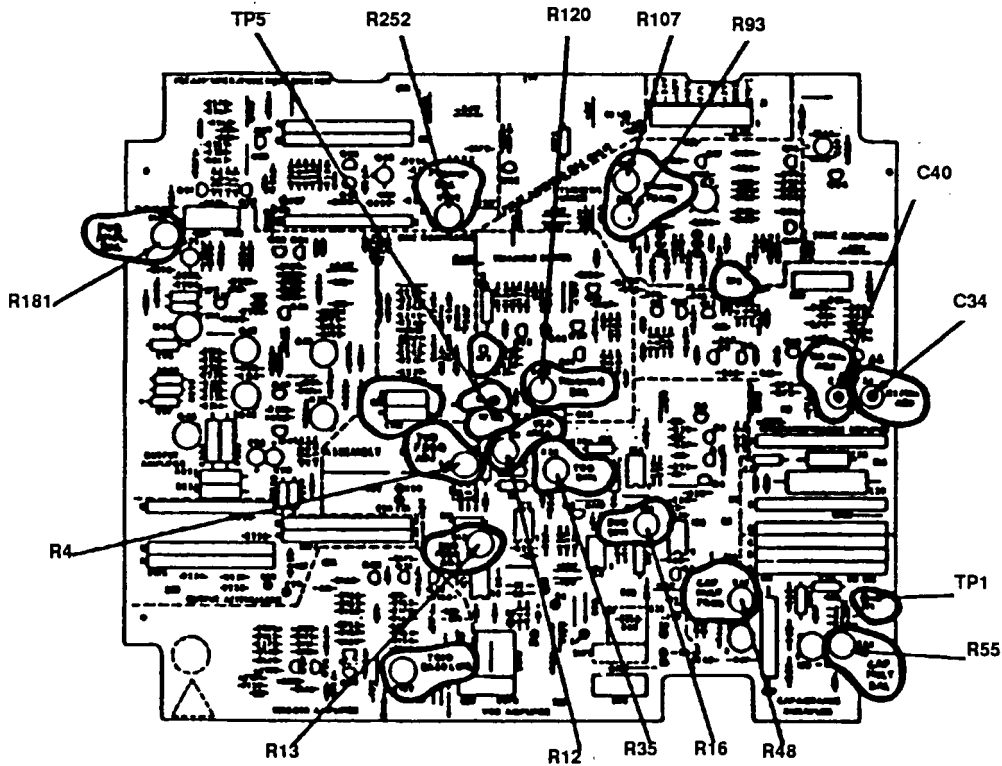

Figure 2. Test instrument - bottom view.
- (1) Adjust R12 (fig. 2) for minimum shift.
- (2) Adjust R13 (fig. 2) for greater than 5 ms.
- (3) Adjust R16 (fig. 2) for best symmetry ± 0.5 percent (R).
- (4) Repeat **a** (6) and (7) above due to interaction.
- (5) Adjust R35 (fig. 2) for best symmetry ± 0.5 percent (R).
- (1) Repeat **a** (2) above.
- (2) Connect oscilloscope to audio analyzer output. Sync oscilloscope with **SYNC OUT** using 50 Ω feedthrough termination.
- (3) Adjust R120 (fig. 2) for symmetrical wave form as indicated on oscilloscope.
- (4) Slightly adjust R93 and R107 (fig. 2) for minimum distortion.
- (5) If R93 or R107 (fig. 2) is adjusted near a stop, recenter both adjustments and repeat paragraph **9** above.
- (1) Set **FREQ/PERIOD MULTI (Hz/s)** switch to **1 K** and frequency dial to **2.0**.
- (2) Adjust R4 (fig. 2) until frequency counter indicates between 1990 and 2010 Hz (R).
- (3) Set **FREQ/PERIOD MULTI (Hz/s)** switch to **10**.
- (4) Adjust R48 (fig. 2) until frequency counter indicates between 19.9 and 20.1 Hz (R).
- (5) Set **FREQ/PERIOD MULTI (Hz/s)** switch to **10M**.
- (6) Adjust C40 (fig. 2) for best intolerance condition while varying frequency dial over entire range (R).
- (7) Set **FREQ/PERIOD MULTI (Hz/s)** switch to **1 M**.
- (8) Adjust C34 (fig. 2) for best intolerance condition while varying frequency dial over entire range (R).